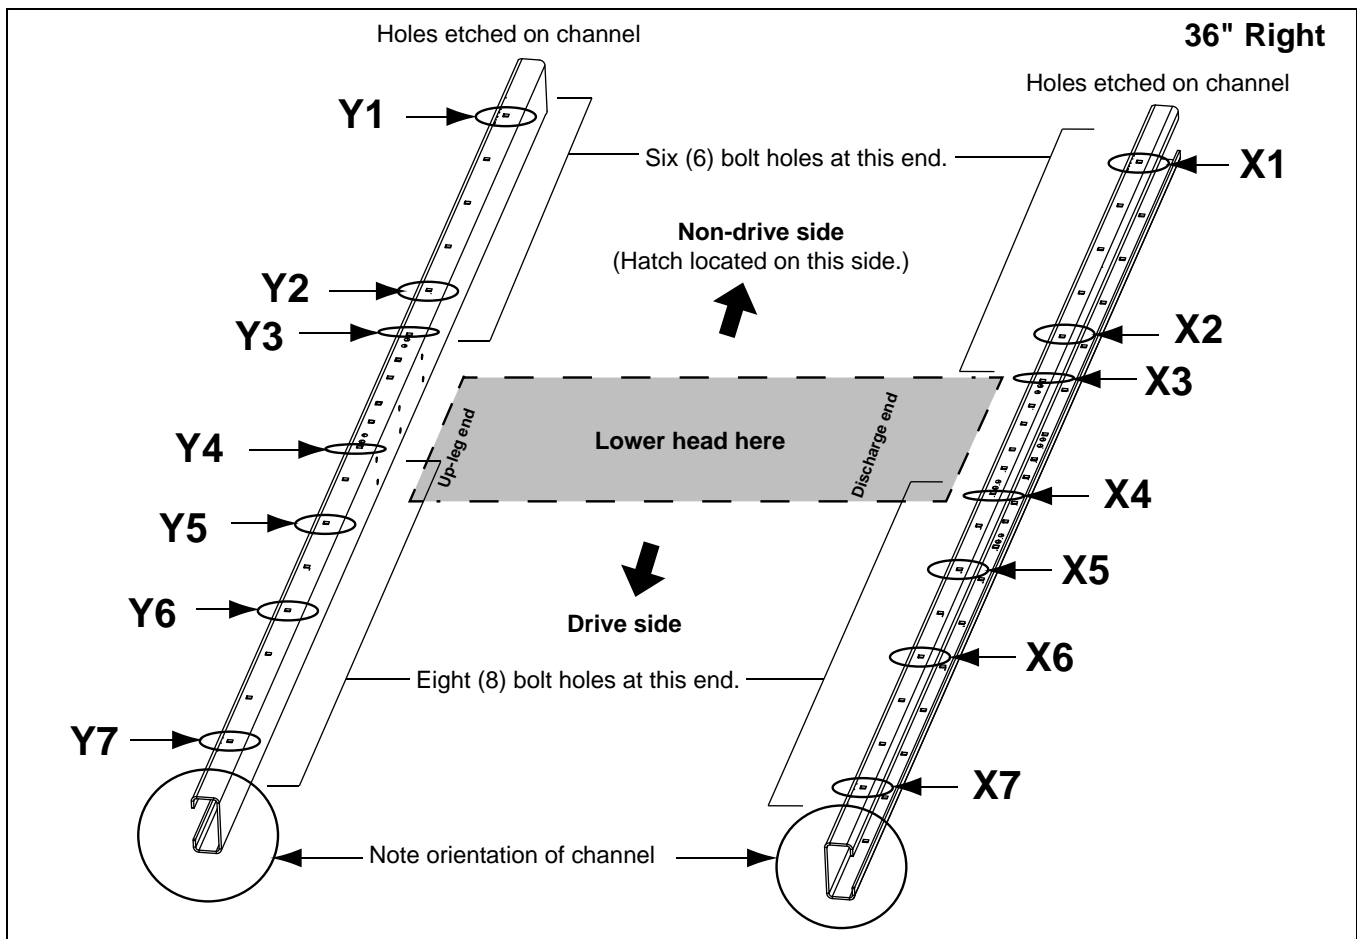
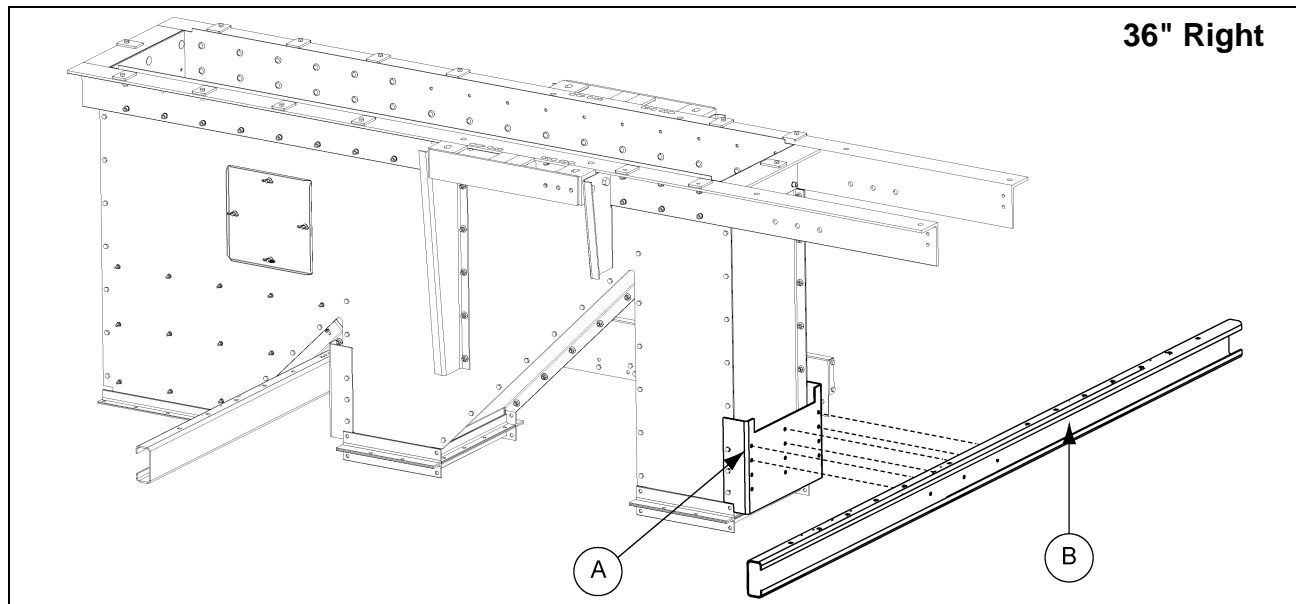

Figure 8D 36" Right Side Drive Channel Position
Figure 8E
(See Figure 8D on Page 51.)
3. Attach cross deck support channels (HP36DSCX) to the top-most set of holes of the lower head brackets (HSP36130) using 3/8" x 1" bolts and nuts and torque properly. (See Figure 8E on Page 51.)
***NOTE:** The channels *MUST* be oriented as shown in Figure 8D and Figure 8E on Page 51 in order for the decking and subsequent assembly to be done correctly.